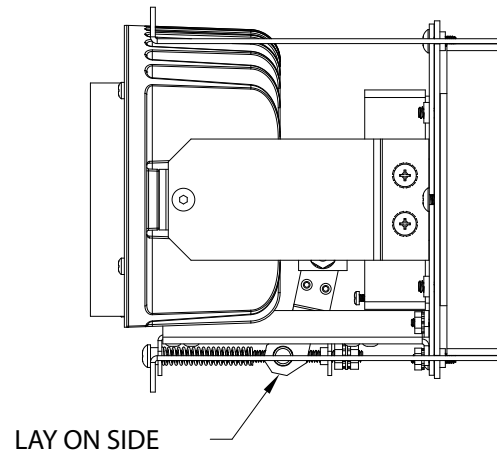

FIGURE 3
6. Disconnect cables ⑦. Warning: Do not unplug wires at the LEDs.
8. Rotate LED cluster 90 degrees so it is lying on its side, see figure 3. Warning: do not place LED cluster upside down on the LED lenses.